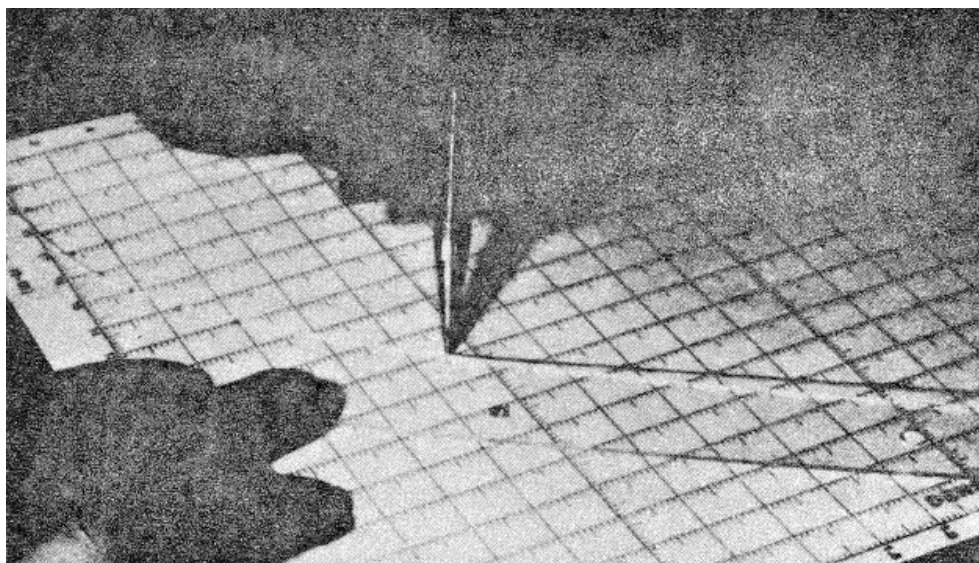

Figure 35
(3) Position the French curve (figures 35 and 36) extended from each end of the straight line so that the plots line up on the edge of it. Connect those plots with a smooth line.